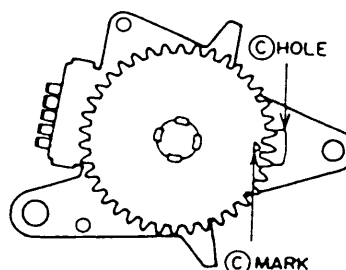

Fig. 3-14
- 1) Set the MODE SELECT SWITCH's gear so that the ③ mark is in the center of the ③ hole as shown in Fig. 3-14.